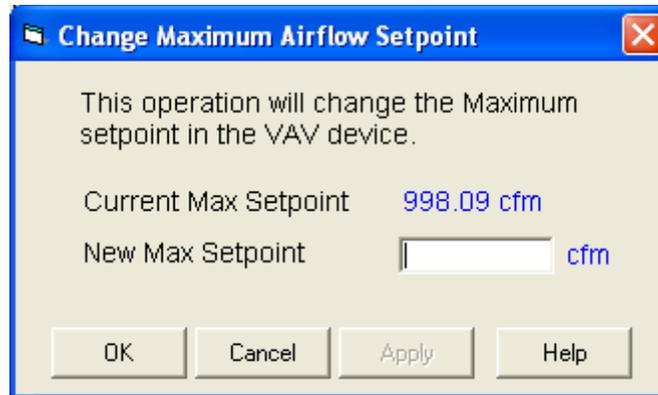

Fig. 10. Change Maximum Setpoint.
2. If maximum airflow setpoint is not correct, user can change it by selecting the “Change Max Setpoint” button. See Fig. 10.